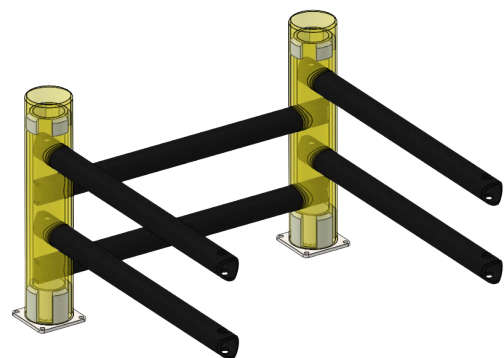

Figure 2. Installation of the next pairs of crossbars.
2. Insert the crossbars of the two sections against the stop into the holes of the remaining posts (Fig. 2). All crossbar holes inside each of the posts must be coaxial.